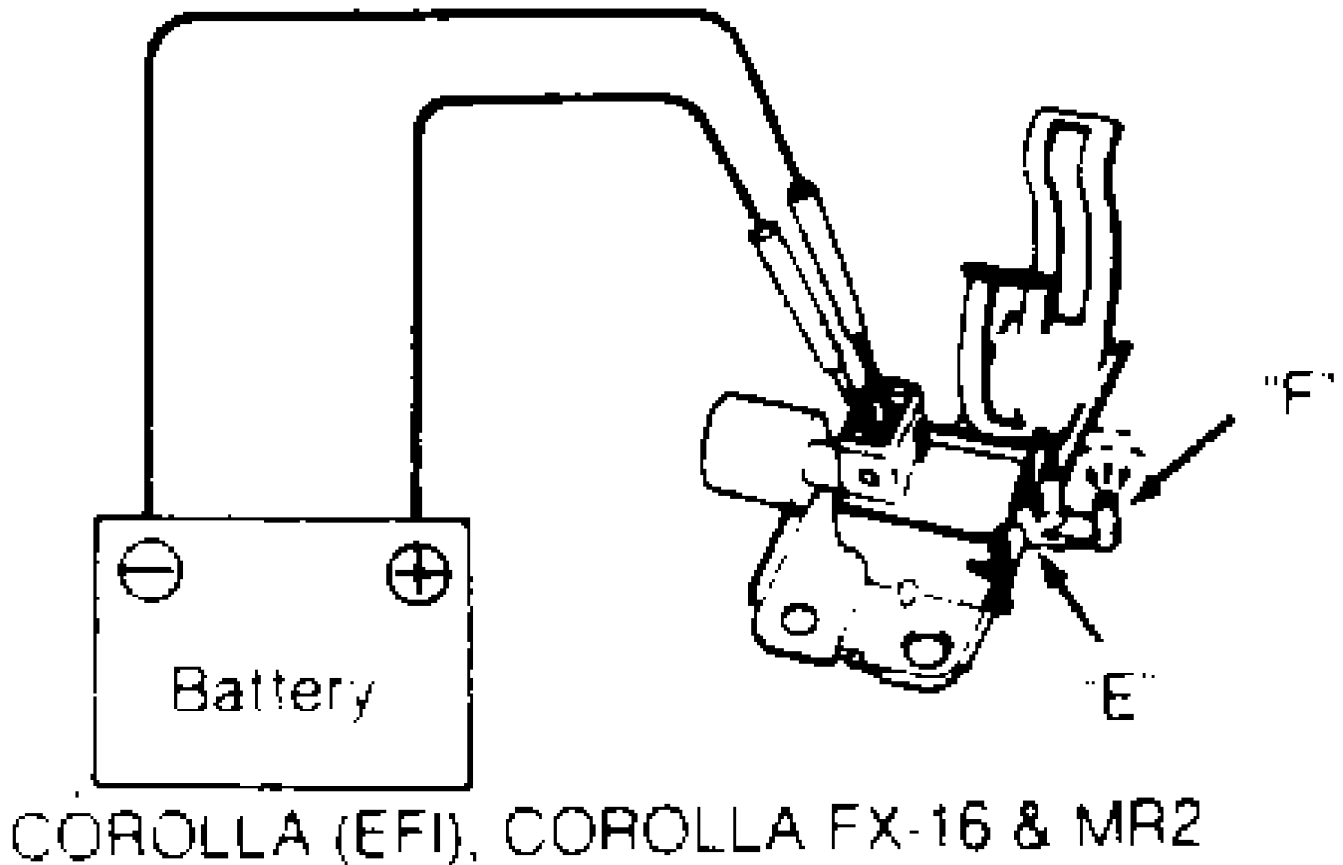

Fig. 19: Testing VSV Operation (Corolla EFI, Corolla FX-16, & MR2)
1) Connect battery to VSV terminals. See Fig. 19. Apply air pressure to port "E". Air should escape from air filter. Disconnect battery terminals.
1) Apply air pressure to port "E". Air should escape from port "F". See Fig. 19. Connect battery to VSV terminals. Apply air pressure to port "E".
1) Connect battery to VSV terminals. See Fig. 19. Apply air pressure to port "E". Air should escape from port "F". Disconnect battery terminals.